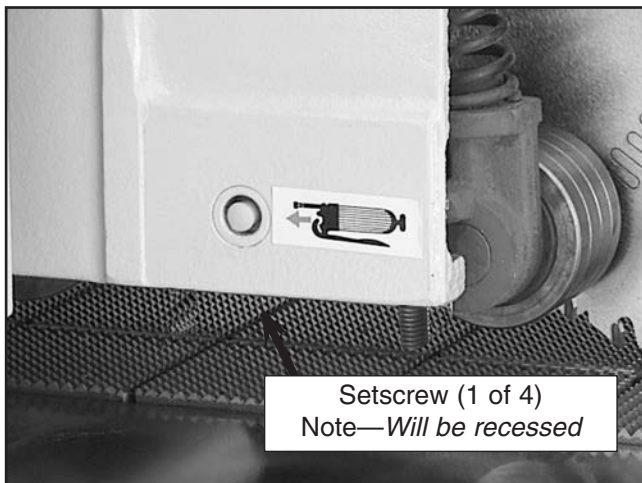

Figure 27. Setscrew.
2. Using a 3mm Allen wrench, remove the four M6-1.0 x 10 setscrews from the bottom edge of the head casting and replace with the four M6-1.0 x 30 setscrews (**Figure 27**). Note—*The head of the M6-1.0 x 10 setscrews will be recessed up in the head casting.*